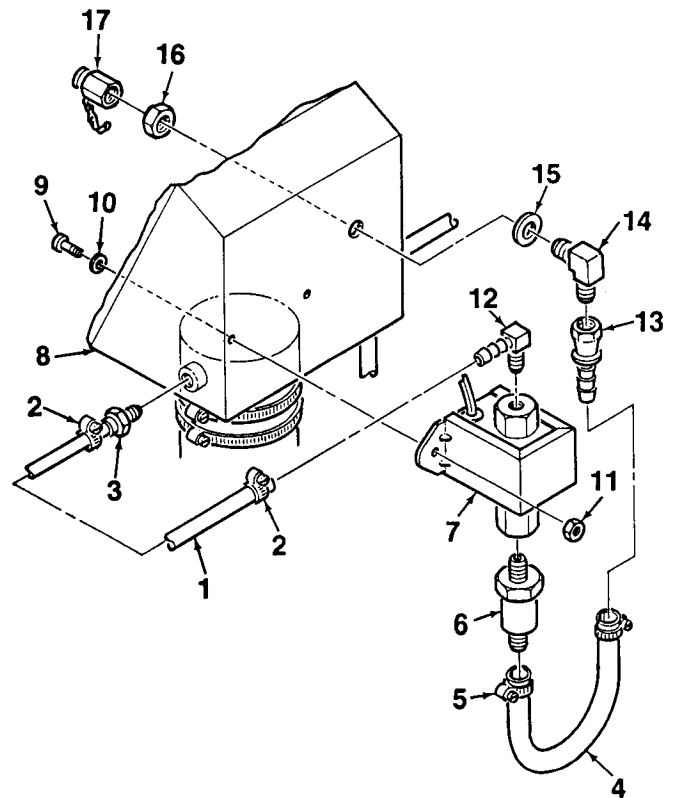

Figure 4-46. Auxiliary Fuel Pump
3. Disconnect fuel hose (1, Figure 4-46) from elbow (12) by loosening clamp (2).
4. Disconnect fuel hose (4) from fuel strainer (6) by loosening clamp (5).
5. Remove auxiliary fuel pump (7) from fill pocket (8) by removing two screws (9), washers (10), and locknuts (11).
6. Remove elbow (12) from auxiliary fuel pump (7). Remove fuel strainer (6).
7. Disconnect fuel hose (4) from fitting (13) by loosening clamp (5).
8. Remove fitting (13) from elbow (14). Remove cap (17), nut (16), washer (15), and elbow (14) from fill pocket (8).
2. Install elbow (14, Figure 4-46), washer (15), nut (16), and cap (17) onto fill pocket (8). Connect fitting (13) to elbow (14).
3. Install elbow (12) and fuel strainer (6) into auxiliary fuel pump (7).
4. Mate auxiliary fuel pump (7) to fill pocket (8) and secure using two screws (9), washers (10), and locknuts (11).
5. Connect fuel hose (4) to fuel strainer (6) and fitting (13). Secure by tightening clamps (5).
6. Connect fuel hose (1) to elbow (12). Secure by tightening clamp (2).